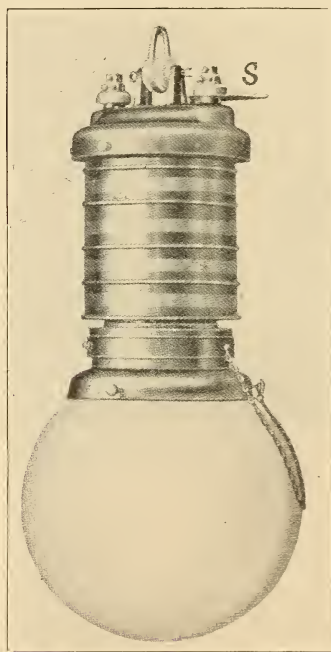

FIG. 8. ENCLOSED ARC LAMP WITH SWITCH.
In practice this lamp switch is provided with a handle or lever that projects from the top of the lamp, as represented in Fig. 8 at (S). This switch can be opened or closed from the floor by means of a pole without lowering the lamp.